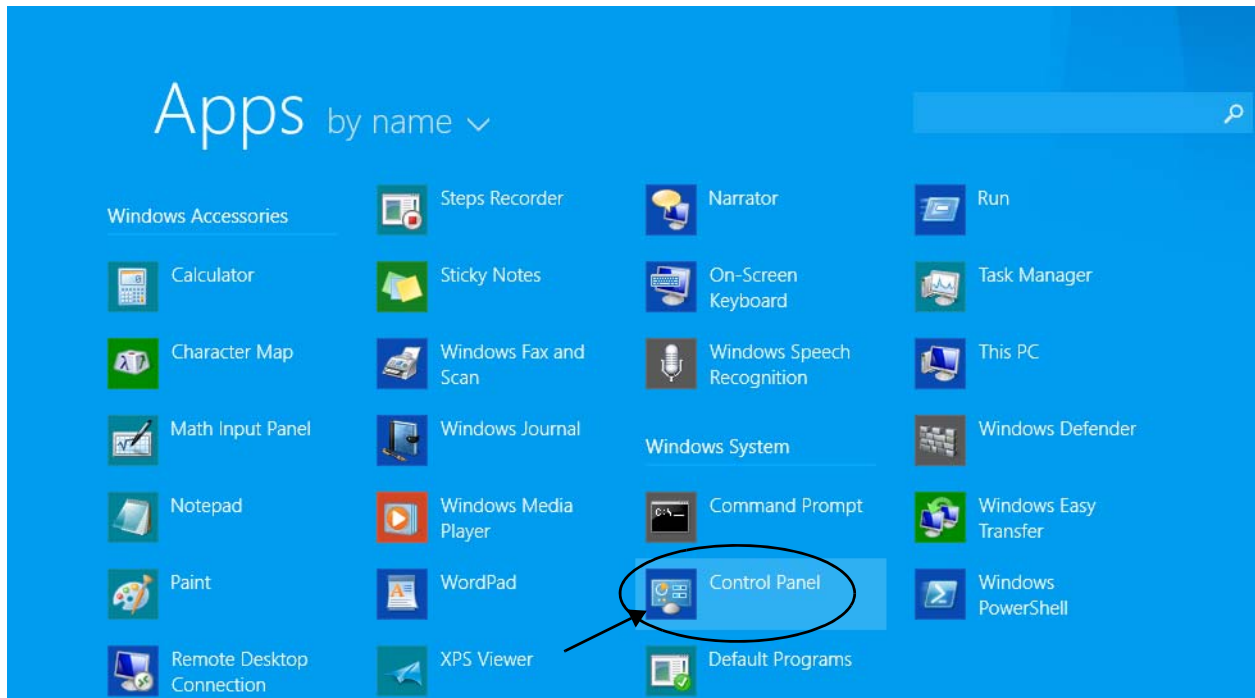

FIG. 57
1. On the Apps menu select Control Panel (FIG. 57).